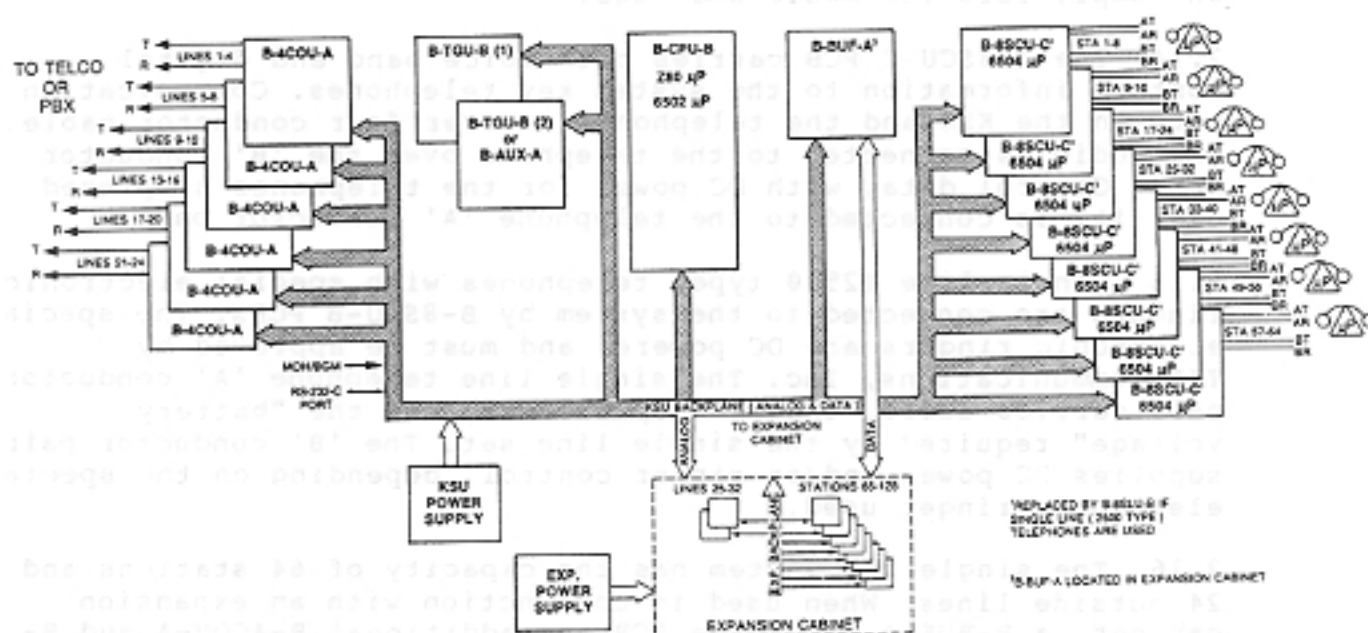

Figure 8-1 SYSTEM BLOCK DIAGRAM, TCX-128
2.02 The TCX-128 system (Figure 8-1) uses the following common equipment Printed Circuit Boards: